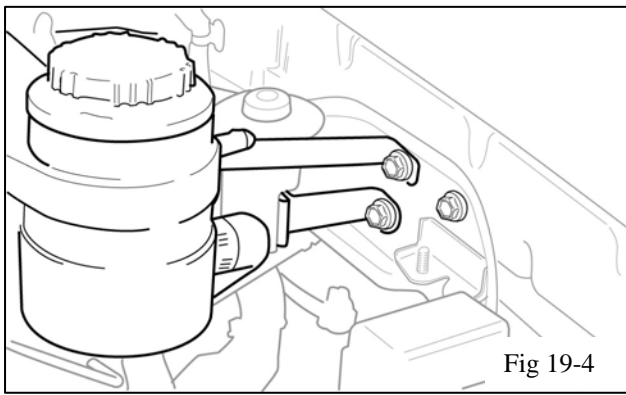

Fig 19-4
- (d) Attach the reservoir bracket brace (A3) to the threaded hole where the bolt was removed in step 19c using the M8x20 bolt (A6) (Fig 19-4). **Torque: 8 Nm (71 in lbf)** The other end of the brace will attach to the upper driver's side hole in the reservoir bracket when the reservoir is mounted.
- (e) Using 3 M6x12 bolts (H14), mount the intercooler reservoir tank (I2) to the reservoir bracket (Fig 19-4) making sure you capture the brace from step 19b. **Torque: 4 Nm (35 in lbf)**
- (h) Attach the reservoir bracket brace (A3) to the threaded hole using the M8x20 bolt (A6) (Fig 19-4). **Torque: 8 Nm (71 in lbf)** The other end of the brace will attach to the upper driver's side hole in the reservoir bracket when the reservoir is mounted (Fig 19-7).
- (j) Using 3 M6x12 bolts (H14), mount the intercooler reservoir tank (I2) to the reservoir bracket (Fig 19-4) making sure you capture the brace from step 19h. **Torque: 4 Nm (35 in lbf)**